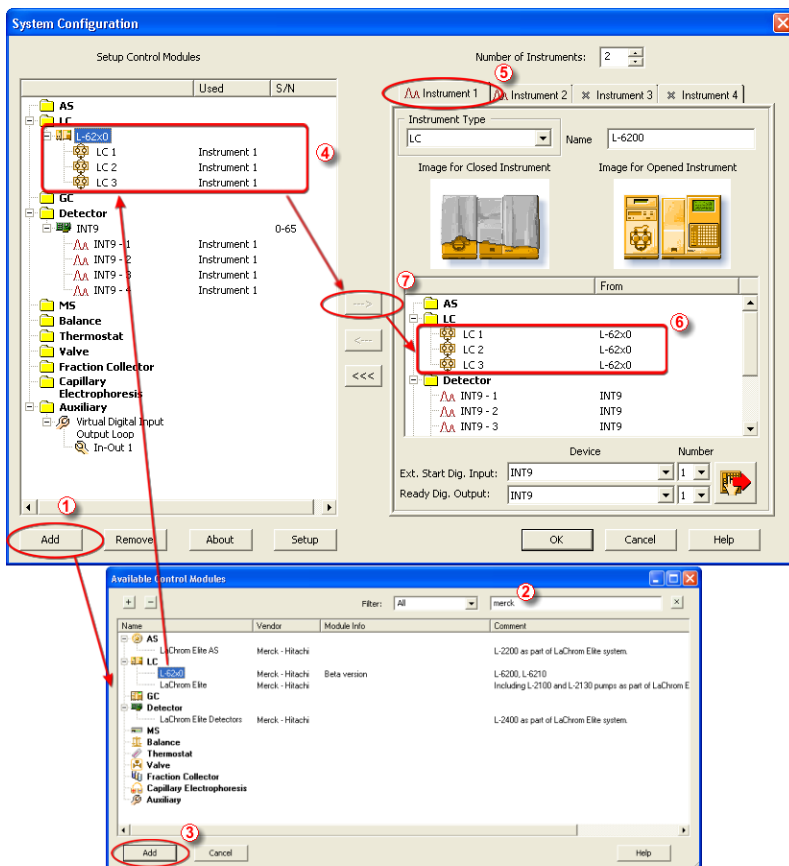

Fig 3: System Configuration
- Press the **Add** button ① (see **Fig 3** on pg 4.) to invoke the **Available Control Modules** dialog.
- You can specify the searching filter ② to simplify the finding of the driver.
- Select the **L-62x0** and press the **Add** ③ button.